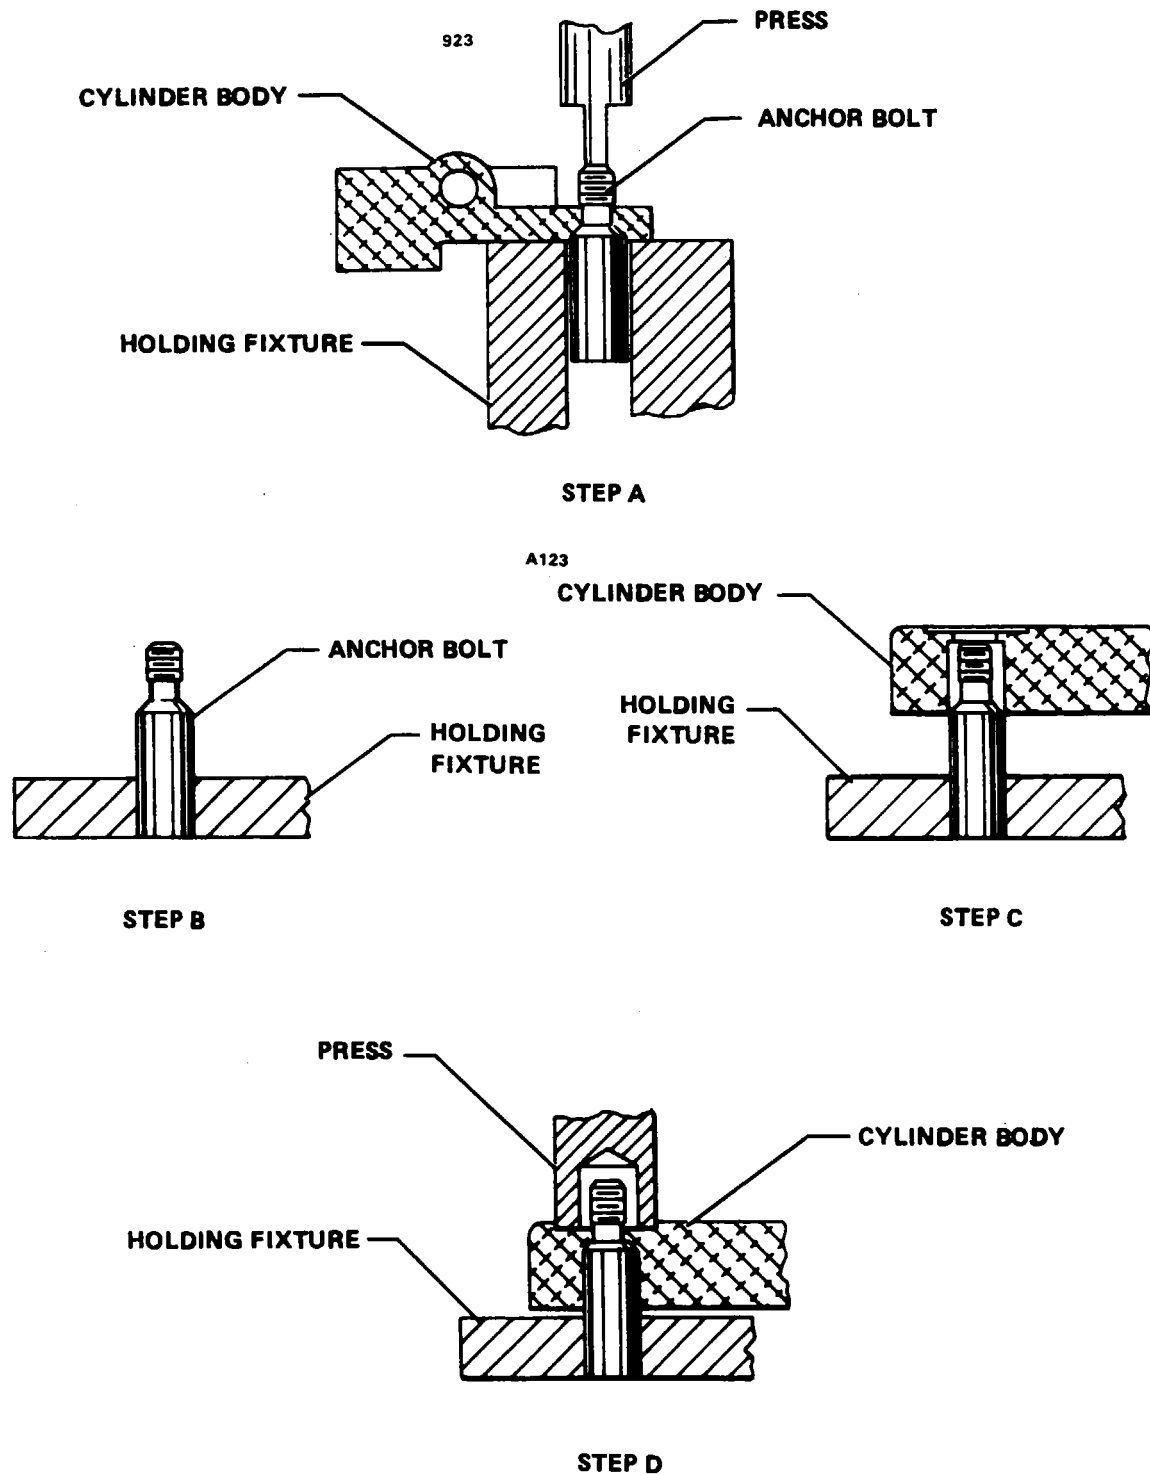

Figure 7-26. Removal and Installation of Anchor Bolts
- b. Cut the safety wire and remove the self-locking cap bolts (18) that secure the backing plates (1) to the brake cylinder housing (12). Remove the backing plate, shim spacer block (5). On 37-200A brake assemblies, remove the pressed fiber shim (2) between the backing plate and the shim spacer block.
- c. Slide the brake cylinder housing from the torque plate (21) by removing the self-locking nuts (19) and washers (20) from the anchor bolts (13).
- d. Remove the pressure plate (7) by removing the nut (17), washer (16), retraction spring (15) and the sleeve (14) from the outside center of the brake cylinder housing (12).
- e. The pistons may be removed (9) by injecting low air pressure in the cylinder fluid inlet and forcing the pistons from the housing.
1. Position cylinder assembly on a holding fixture. (Refer to Figure 7-26.)
1. Support anchor bolt in a holding fixture. (Refer to Figure 7-26, Step A.)
2. Align cylinder body over anchor bolt. (Refer to Figure 7-26, Step B.)
3. Use a suitable arbor press and apply pressure on the spot face directly over the anchor bolt hole. (Refer to Figure 7-26, Step C.)